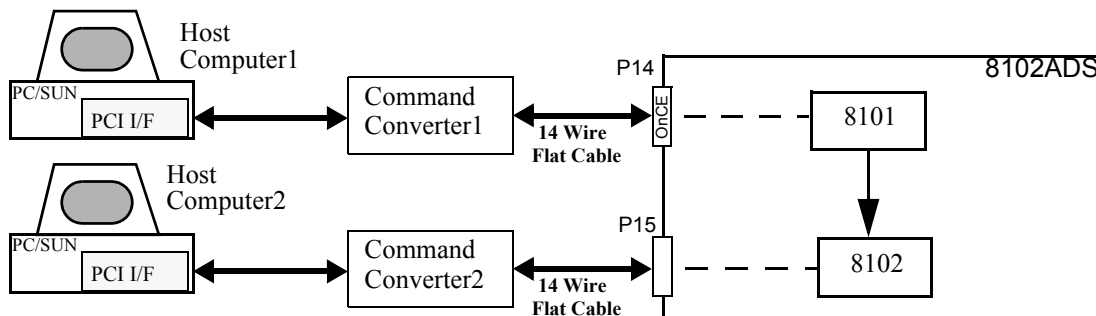

Figure 3-9 Host System Debug Scheme A (spitted)
In the Debug Connection Scheme configuration the MSC8102ADS is controlled by a host computer via the OnCE Port, a subset of a JTAG port. This configuration allows for extensive debugging using an on-host debugger. The Host is connected to the ADS via a Command Converter provided by a third party such as Macraigor Systems. A PCI host debug interface is preferred due to the faster throughput offered by a parallel port interface. Three possible connections are shown in the figures below: Figure 3-9 Host System Debug Scheme A (spitted), Figure 3-10 Host System Debug Scheme B (daisy-chained) and Figure 3-11 Host System Debug Scheme C (daisy-chained).
- 1) Connect the External Command Converter to the front “OnCE” (P14 ) connector for B and C debug scheme (Figure 3-10 and Figure 3-11) and to P14 and/or to header P15 for A debug sheme (Figure 3-9).